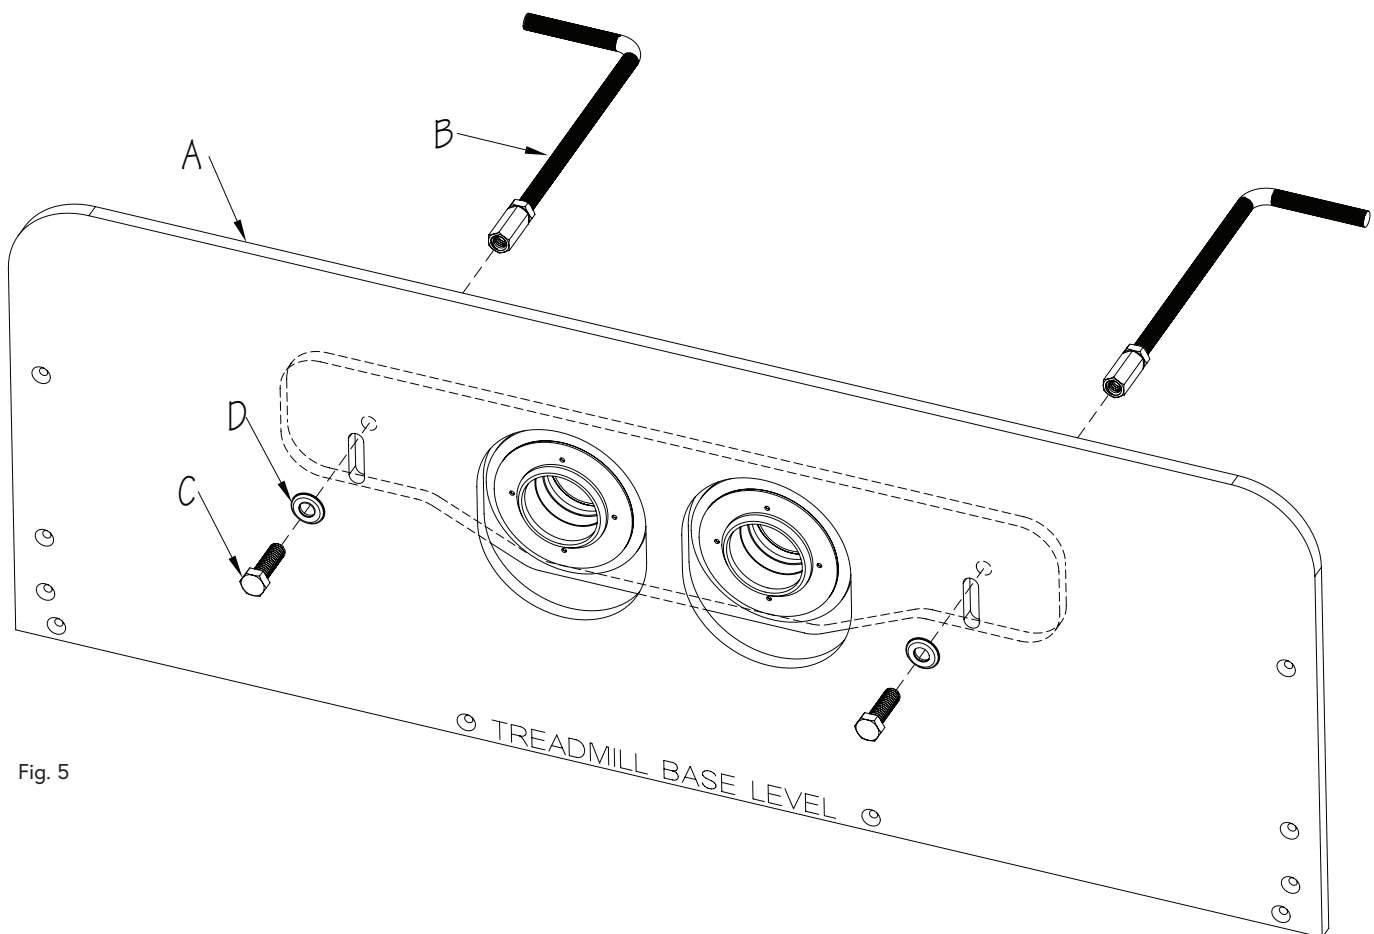

Fig. 5
Position the Mounting Template (A) over the front of the Mounting Bracket, aligning the slotted holes with the holes in the bracket. From the back of the bracket, align the Threaded Rod Assembly (B) with the hole in the bracket. From the front of the template, insert the Sacrificial Bolt (C) through the slotted hole and into the Coupler of the Threaded Rod, making sure there is a Sealing Washer (D) in between the bolt and template. **Ensure that the bolt is at the top of slotted hole in the template prior to tightening (Fig. 5)**